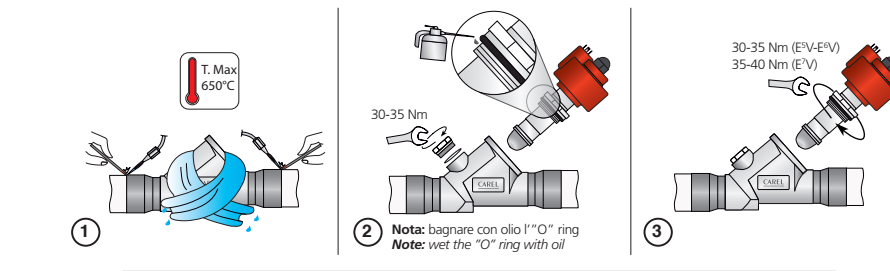

Fig. 2
Le valvole E⁵V, E⁶V, E⁷V devono essere saldate al circuito mediante brasatura dei raccordi in rame ai tubi di uscita condensatore (IN) e di ingresso evaporatore (OUT). Seguire la successione indicata in Fig. 2 procedendo in questo modo:
The E⁵V, E⁶V, E⁷V valves must be joined to the circuit by braze welding the copper fittings to the condenser outlet (IN) and evaporator inlet pipes (OUT). Proceed as indicated in Fig. 2.
6. Make sure that the red stator is fully inserted on the cartridge with the black nut screwed on tightly until deforming the rubber ring on the stator (tightening torque 0.5 Nm). (Fig. 2 D);